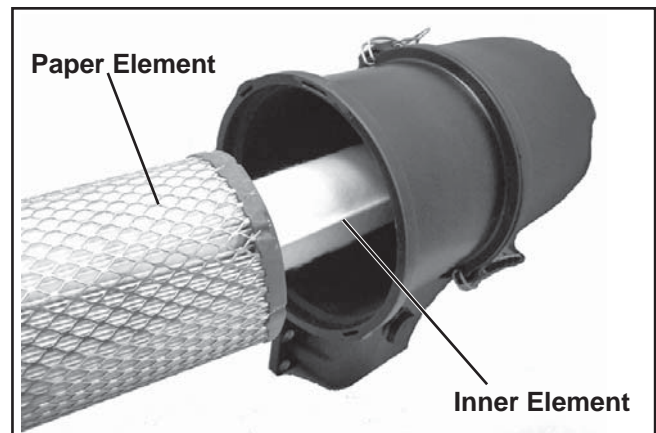

Figure 4-2. Removing Elements.
2. Check and clean the inlet screen. Pull the paper element out of the housing on the opposite side. See Figures 4-2 and 4-3.